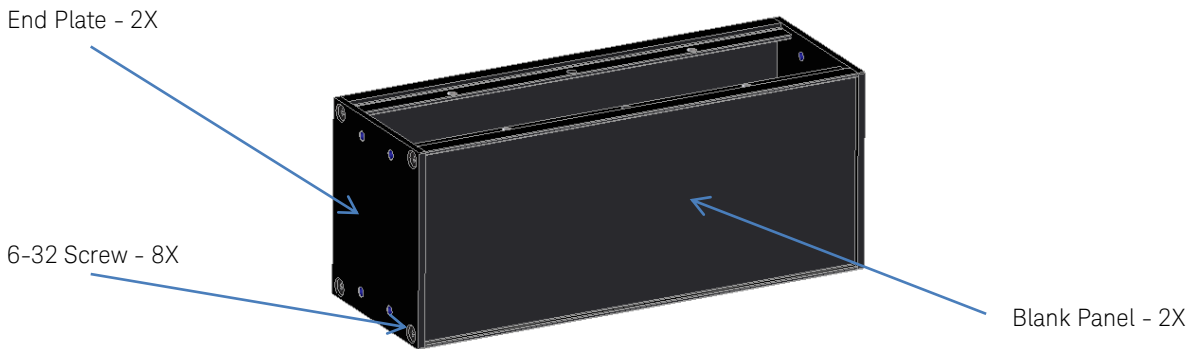

Figure 1: Assemble rack mount kit
3. Assemble the rack mount kit as shown in Figure 1.